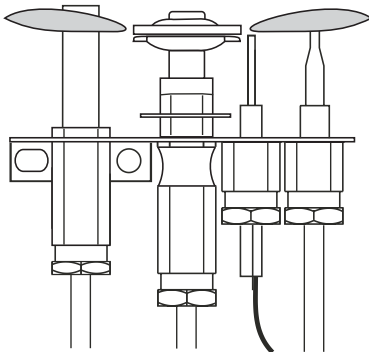

Figure 31. Pilot Burner.
2. Adjust pilot screw to provide properly sized flame as shown in figure 31).